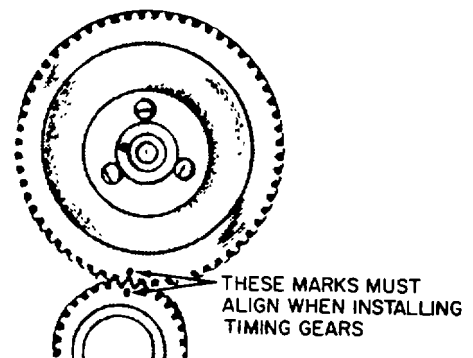

Figure 6-13. Timing Gear Removal & Installation
(1) When pressing a camshaft gear (155-2) onto the camshaft (181), be sure the gear is started straight and that the key (181A) is properly in place. Install the governor cup assembly to the gear before installing the camshaft and gear assembly in the engine.
(2) Each timing gear (153) is stamped with a O mark near the edge. The gear teeth of the gear set must mesh so that these marks coincide exactly when the gears are installed in the engine (fig. 6-13). Be sure, when installing the camshaft gear (153-2) and shaft assembly (181) that the thrust washer (154) is properly in place behind the camshaft gear (153-2). Replace the plate (156) and lock ring (155) to the crankshaft (199).
(3) Reassemble governor cup, gear cover, and flywheel (para 6-8 thru 6-10).